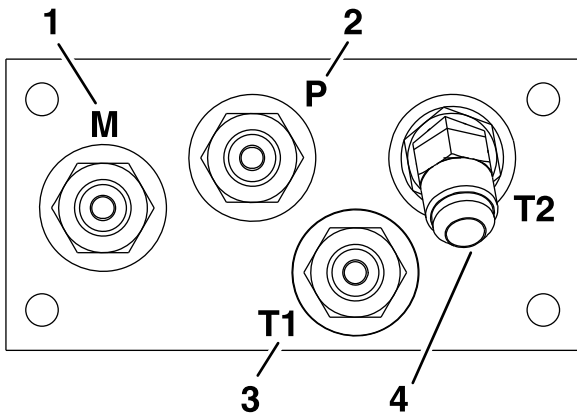

Figure 8
11. Connect the straight end of the 1/4 x 18 inch hose to the manifold port marked "P" (Figure 8) and the 90 degree elbow to the rear fitting marked "T" (closest to the tower) on the solenoid valve (see Figure 10 and Figure 11).